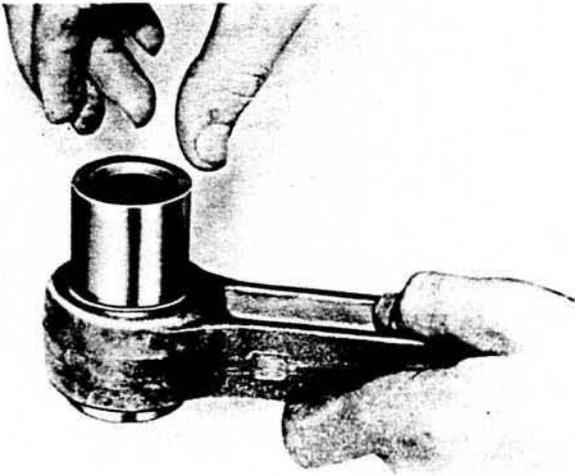

Fig. 27. Gudgeon pin fit
6. Ream or diamond-drill the bushing to an accurate running fit. When clearance is correct the gudgeon pin should slide through the bushing under its own weight without noticeable looseness. See Fig. 27.